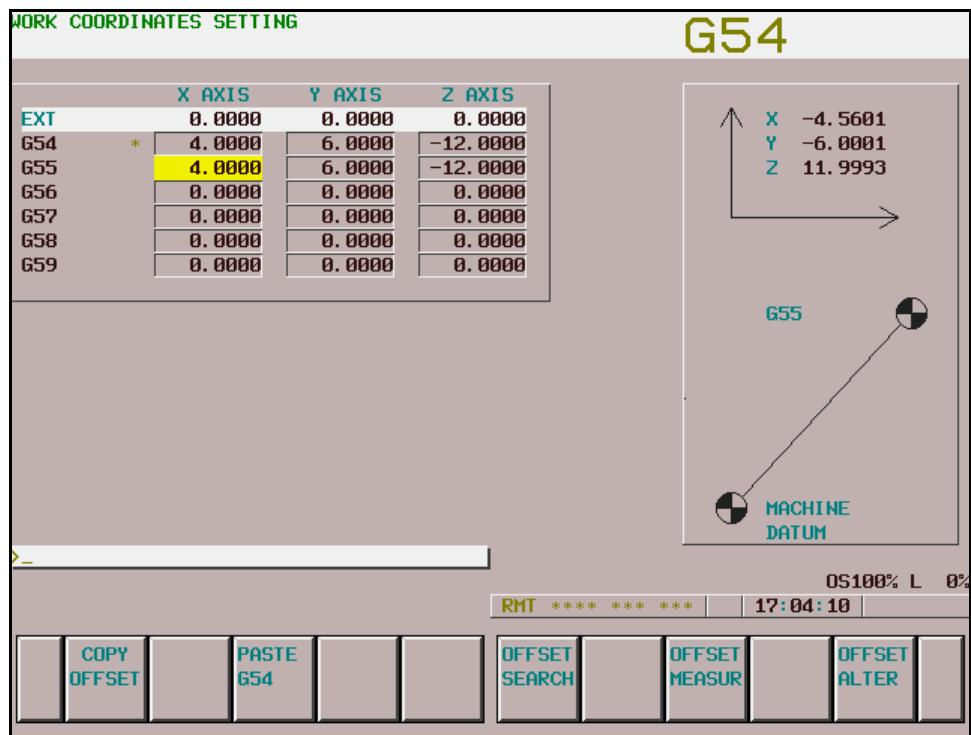

Figure 6-6: Paste G54 Softkey
6. Type-in 8.0 inch and press the OFFSET ALTER softkey (Figure 6-6); this will add 8.0 inch to the value that was in G55 X-AXIS.